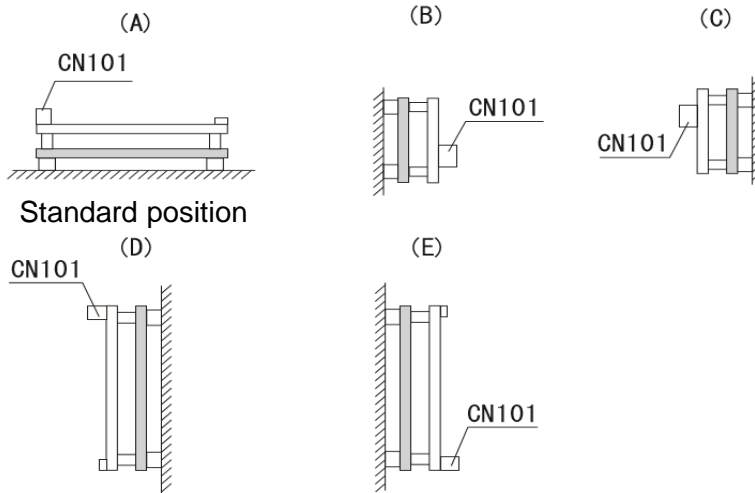

Fig 2.4 Mounting method
(A) to (E) mountings are shown in Fig 2.4.